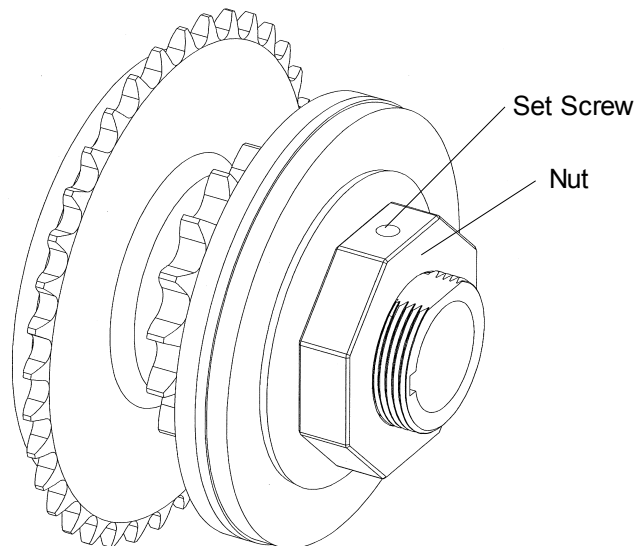

Figure 37 - Clutch Adjustment
1. Loosen clutch set screw, refer to Figure 37.